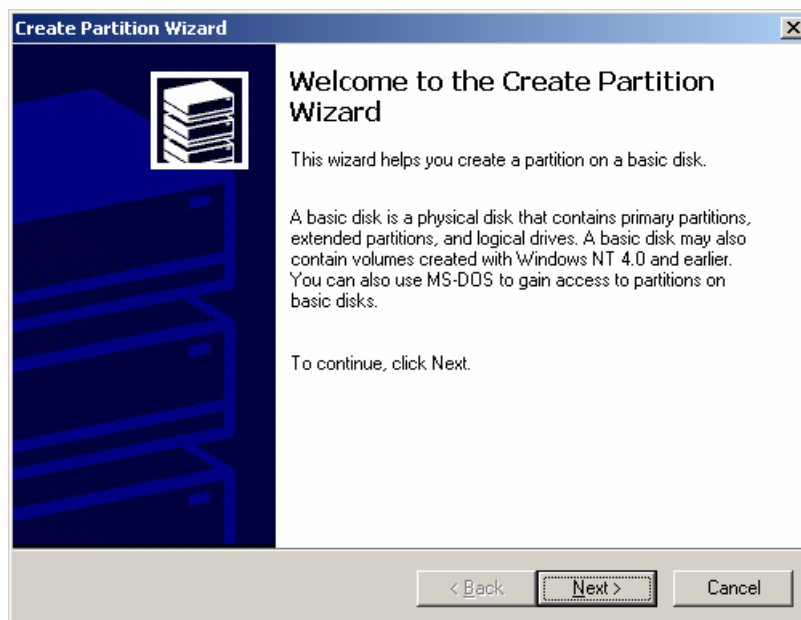

Figure 2-40 [Create Partition Wizard] dialog box
- 2) Select [Create Partition] from the shortcut menu. The [Create Partition Wizard] dialog box is displayed. Click <Next> to continue. See Figure 2-40.